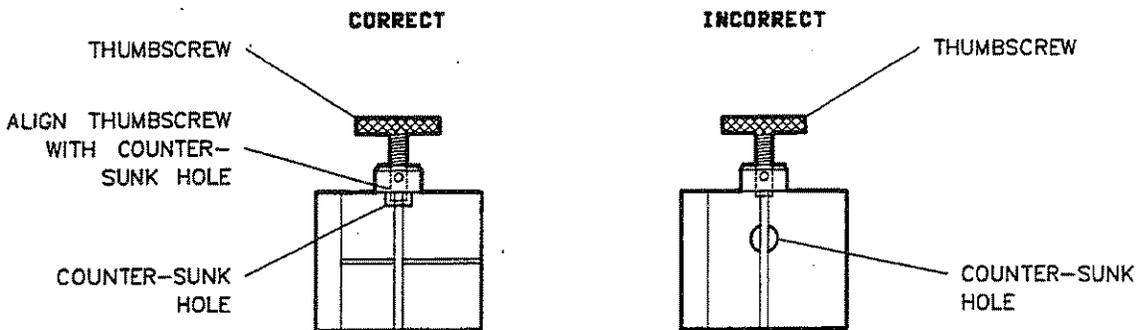

Figure 13. Aligning the Thumbscrew with the Counter-bored Hole
5. See Figure 13. Make sure that the thumbscrew is aligned with the counter-sunk hole in the clamp body. Push the clamp toward the test set front panel and then tighten the thumbscrew with your fingers. The cable cannot be damaged by tightening the thumbscrew too tightly.